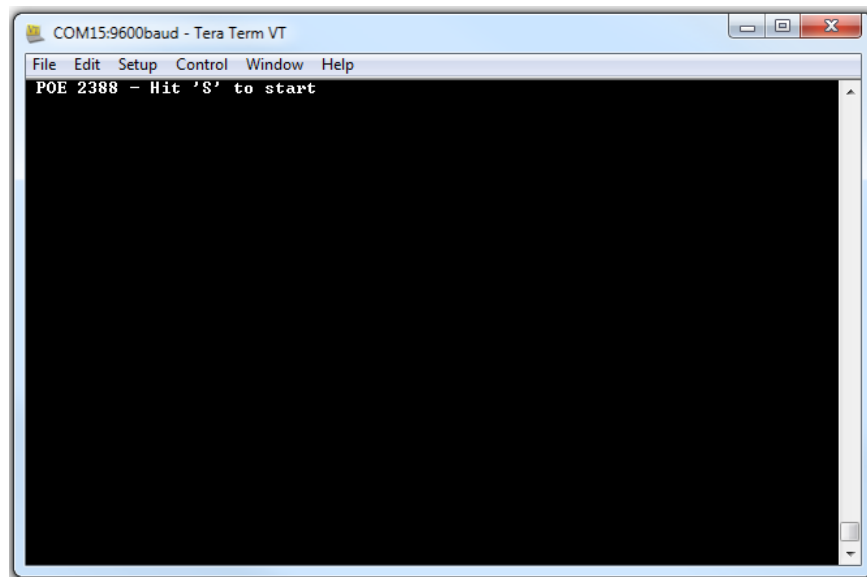

Figure 8. Hit 'S' to Start
10. Once the terminal program is properly connected to the LaunchPad running the POE firmware, then text similar to Figure 8 appears (If it does not appear at first, try to close Tera Term and reopen).